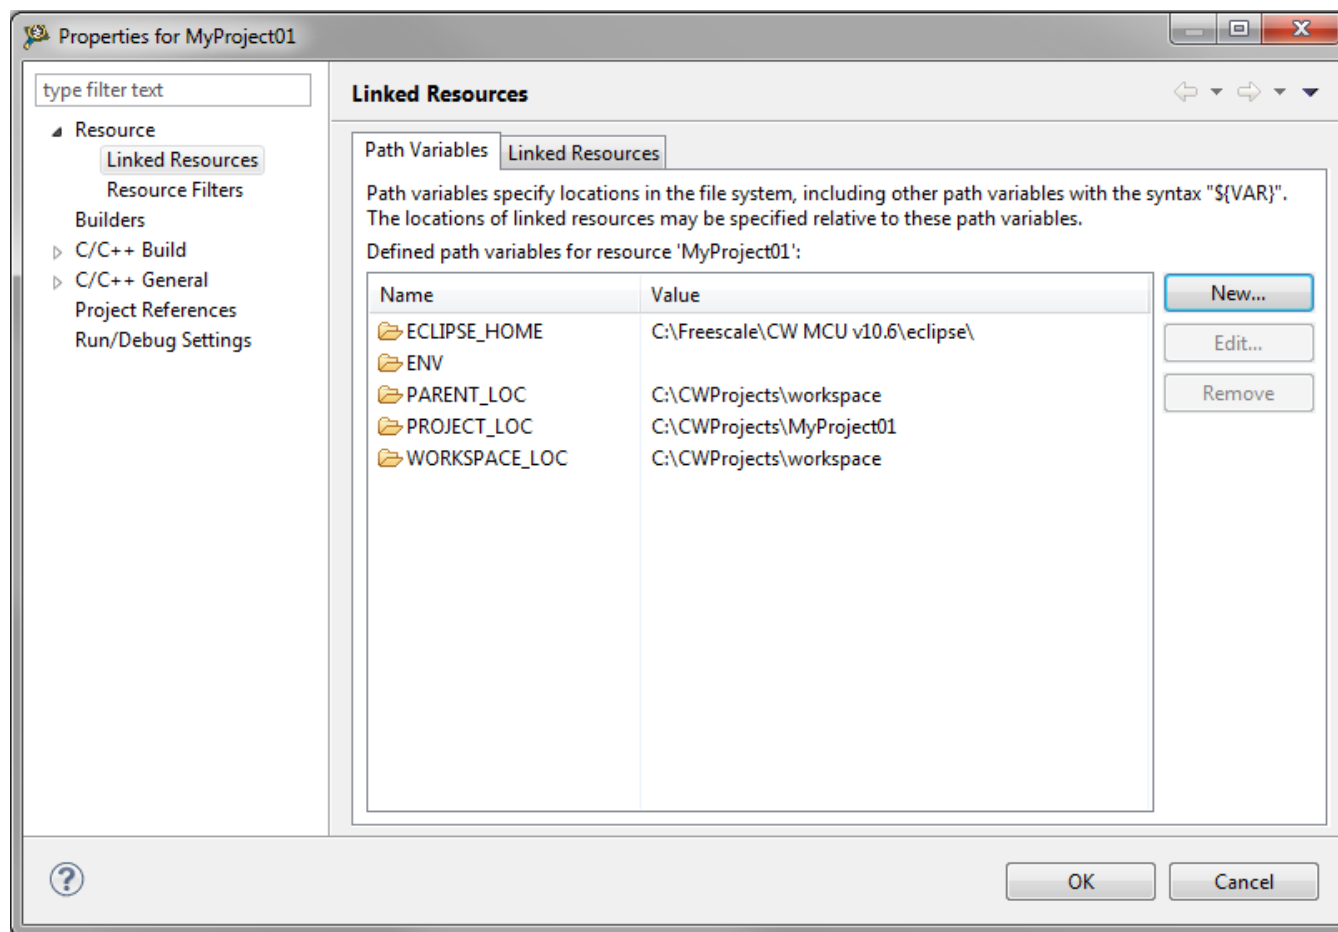

Figure 1-6. Project properties
- Expand the Resource node and click Linked Resources. See Figure 1-6.